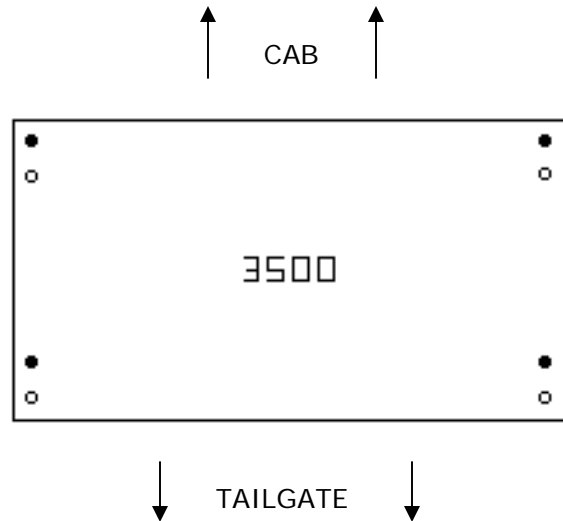

Figure 6
2. Mark the 4 holes as shown in Figure 6 (Front-use outer holes, Rear-use inner holes).